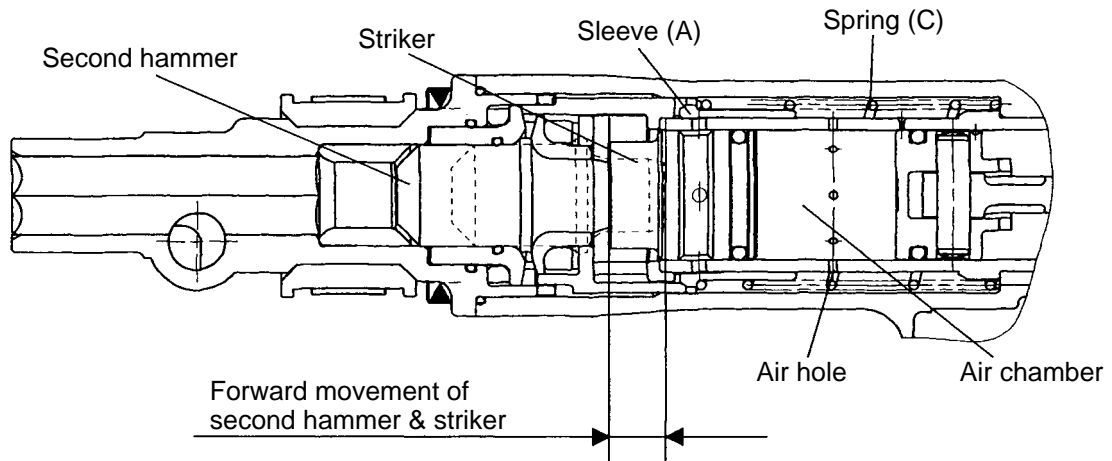

Fig. 7
When the bull point is released from the concrete surface, sleeve (A) and the second hammer are forcibly moved to the position illustrated in Fig. 7 by spring (C), and the striker moves out of striking position. When this occurs, the air holes located at the position unaffected by the rebound of the striker at no load are opened and the pressure within the air chamber remains unchanged even though the piston continues to reciprocate, thereby preventing striking operation.